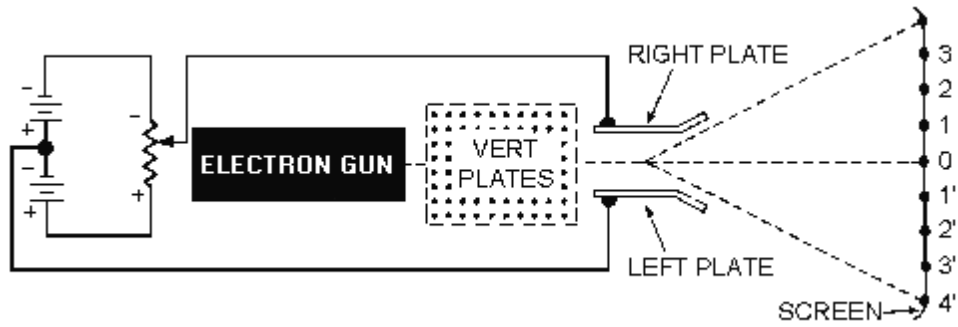

Figure 6-11.—Horizontal plates (top view).
**HORIZONTAL-DEFLECTION PLATES.**—Now let's look at horizontal-deflection action. Assume that the resistance of the potentiometer shown in figure 6-11 is spread evenly along its length. When the arm of the potentiometer is at the middle position, the same potential exists on each plate. Since there is zero potential difference between the plates, an electrostatic field is not moved downward at a uniform rate; the right plate will become more positive than the left (you are looking down through the top of the CRT). The electron beam will move to the right from screen point 0 through points 1, 2, 3, and 4 in equal time intervals.